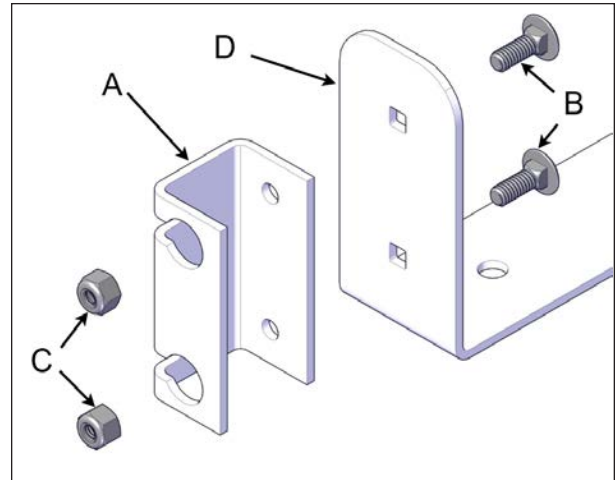

FIGURE 42: SPA ENTRANCE U-FRAME LINK AND METAL COUPLER
12. Install one unpainted metal coupler on each end of the spa entrance U-frame link see Figure 42.
13. Align one coupler with the holes on each end of the spa entrance U-frame link. Use the provided 1/4" x 3/4" carriage bolts, 1/4" nylon- insert lock nuts and fasten the hardware with the 7/16" (11 mm) socket wrench and spanner. There is one metal coupler per side see Figure 42.